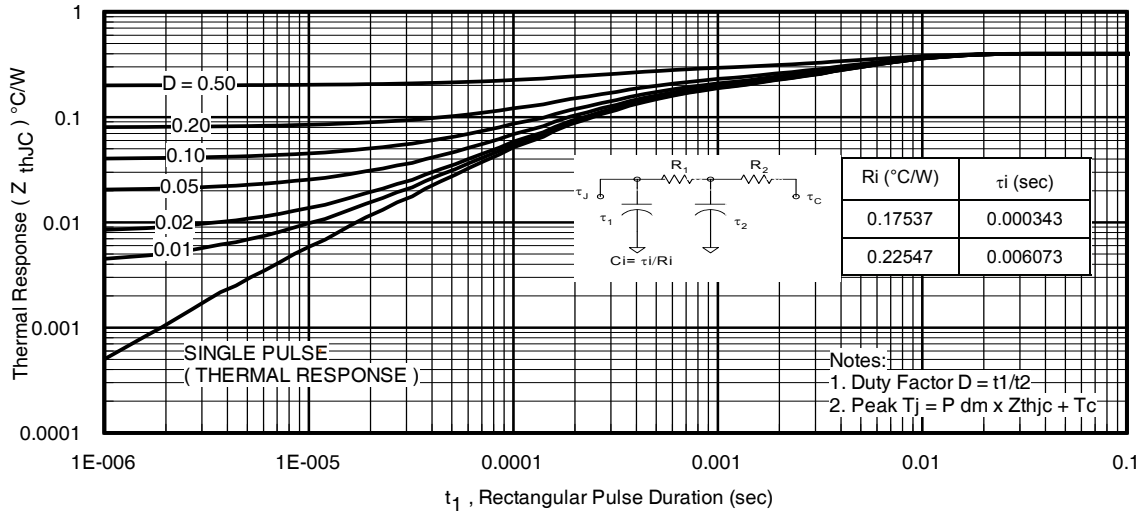

Fig 13. Maximum Effective Transient Thermal Impedance, Junction-to-Case
7. DeltaT = Allowable rise in junction temperature, not to exceed Tjmax (assumed as 25°C in Figure 13, 14).
ZthJC(D, tav) = Transient thermal resistance, see Figures 13)